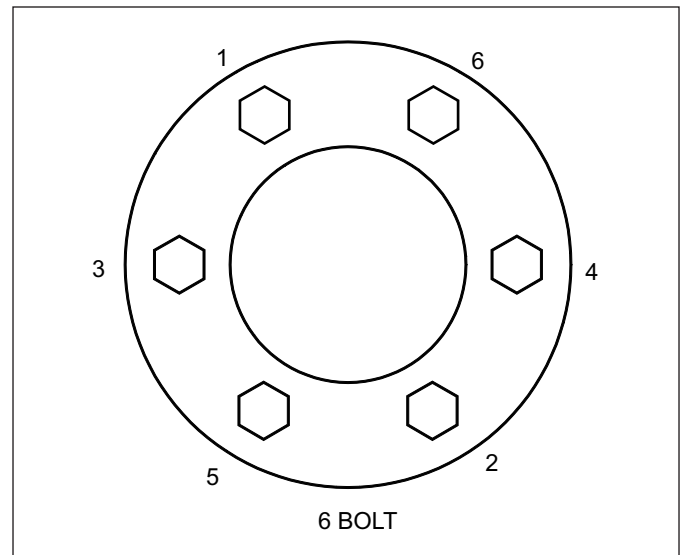

Figure 2-11: Tightening Sequence
- Install a Tire and Wheel Assembly onto each Hub with 1/2-20 x 1 Wheel Bolts and tighten Wheel Bolts to 50 Ft-Lbs using the sequence in **Figure 2-11**. Then tighten to a full torque of 80-85 Ft-Lbs.